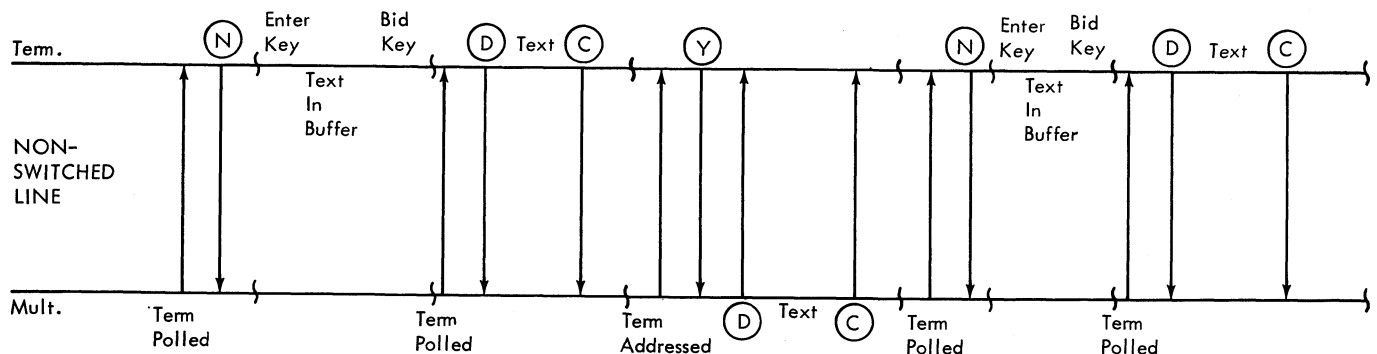

Figure 22. Addressing and Polling Operation (No Special Features)
When operating in communicate mode, pressing the Enter key unlocks the keyboard, turns the Enter light on, and enables the information typed at the keyboard to enter the buffer. The Enter light blinks and the audible alarm sounds as each of the last eight character positions of the buffer is filled to warn the operator that the buffer is nearly filled. The keyboard locks when the capacity of the buffer (120, 248, or 440 characters) is exceeded. After the message has been typed (or the buffer has been filled), transmission is initiated and the Enter light is turned off by operating the Bid key. The message stored in the buffer is transmitted after the Bid key is operated, when the terminal is polled by the CPU (see Figure 22). If addressed after the Bid key is oper-
Station Control provides the terminal with the ability to be addressed indicating "Prepare to receive", or to be polled (a signal indicating "Prepare to send") from the multiplexer (Figures 22, 23, 24, and 25).
The polling sequence is an identification code followed by the Space character. The terminal responds with a (N) if it is not ready to transmit data and a (D) followed by text if it is ready to transmit (Figures 22 and 24).
The All-Call address is the slash (/) character followed by the Space character. The All-Call Address enables all terminals on the line (in Standby status) to accept the transmitted message. Only one terminal (Master terminal) responds for the group. The Group or All-Call Master terminal is designated by the user at the time of installation and wired by an IBM Customer Engineer. If the addressed terminal is not ready to receive data, it responds with a (N), or if ready, with a (Y) (Figures 22, 23, and 25). An All-Call or Group Master terminal responds for the group with (N) or (Y), depending upon the condition.